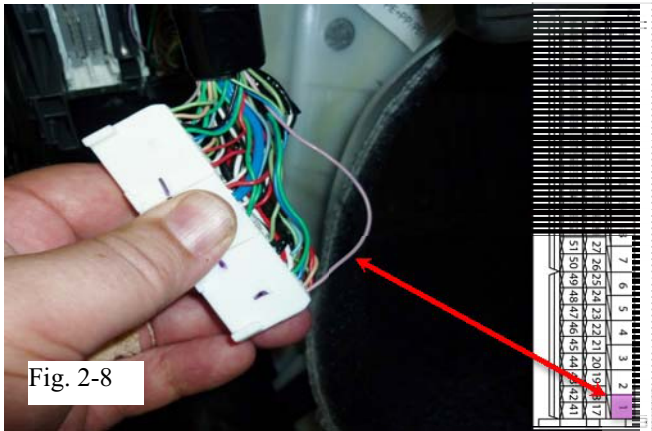

Fig. 2-8
- j) Locate the violet wire (CTY [-], pin 19) as shown. (Fig. 2-8)